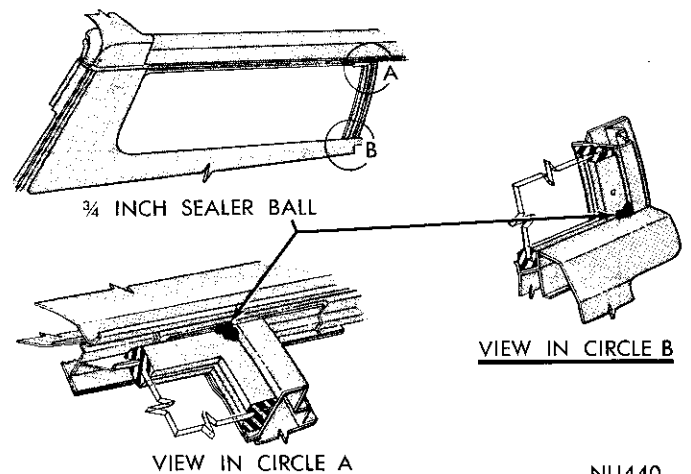

Fig. 83—Sealing Weatherstrip
- (6) Seat glass in weatherstrip using hand pressure.
- (7) Apply rubber lubricant to weatherstrip locking tab and insert locking tab into weatherstrip groove using a fiber stick.
- (8) Apply and press secure, sealer to joint of weatherstrip, body lock upper pillar and roof side rail outer front area (Fig. 83).
- (9) Apply and press secure, sealer to joint of glass